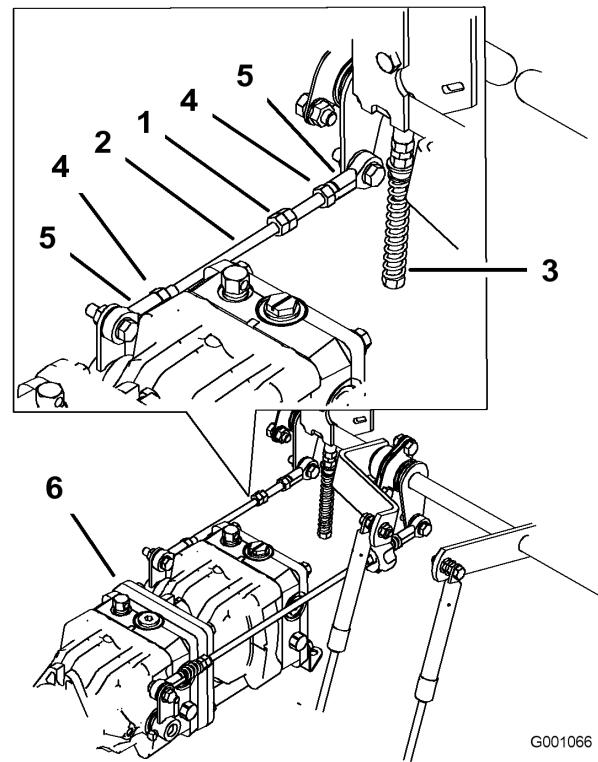

Figure 66
1. Loosen the locknuts at the ball joints on the pump control rod (Figure 66).
3. Adjust the pump rod length by rotating double nuts on rod, in the appropriate direction, until wheel is still or slightly creeps in reverse (Figure 66).
6. Tighten the locknuts at the ball joints (Figure 66).